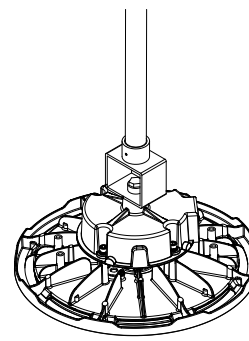

Figure 6
3. Screw the adapter with the fixture onto a pole and secure it with a screw (included with the adapter). (Figure 6)